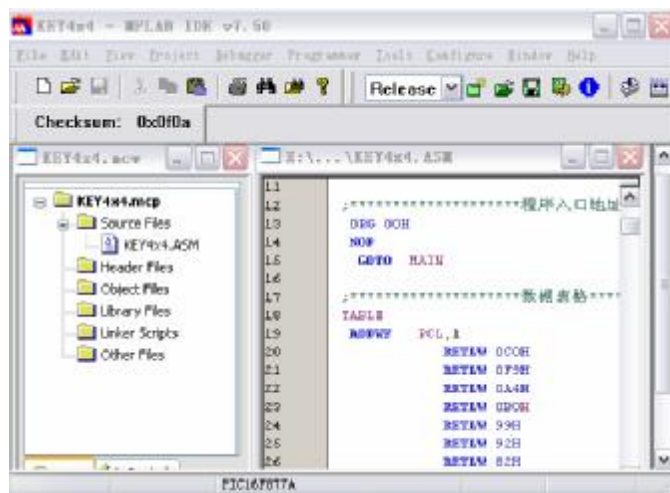

Figure 5-1 MPLAB interface after editing source code and establishing the project
- 2) In accordance with the method introduced in 2.2.1, establish a new engineering project, and complete the settings as below: select PIC16F877A in the second step as the target chip; select "Microchip MPASM Toolsuite" as the compiling tool in the third step; select "KEY4x4" as the new project name (the suffix can be omitted), and the directory for saving the project is the same as that of the source. After editing the source and establishing the project, MPLAB interface will be shown as Figure 5-1.